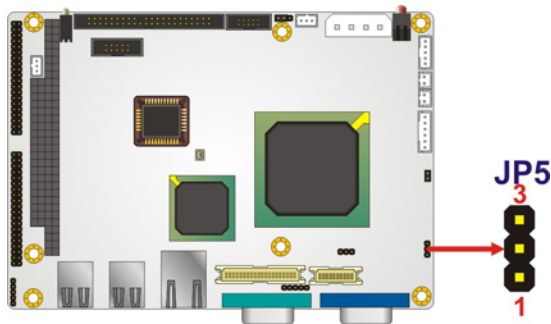

Figure 5-9: LCD Clock Select Jumper Select Jumper Location
- Jumper Location:** See **Figure 5-9**
The COM 2 Function Select jumper location is shown in **Figure 5-9**.
The LCD Clock Select jumper location is shown in Figure 5-9.